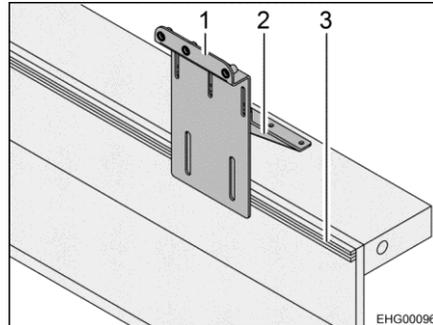

Fig. 1 Spare wheel support (on clamping rail)
- Fit support (Fig. 1,1) to clamping rail (Fig. 1,3) with the included wing screws.
- Fit metal angle (Fig. 1,2) to rear wall of the garage with the included self-tapping screws.